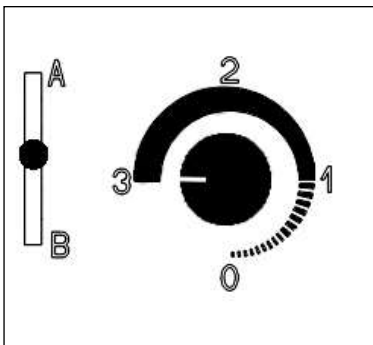
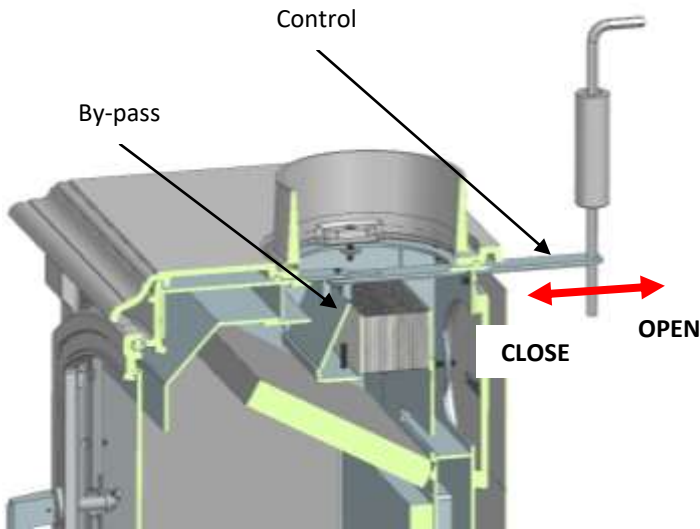

Fig. 11. Lighting and reloading
Fig. 18
1. Be sure the ash drawer is closed and secured. Slide the Burn Type Lever to the centre position (See the setting on fig.11).
2. Open the Burn Rate Knob all the way by turning to the left. This knob may be turned manually or by pressing "ON/HI" on the remote control (optional). (See the setting on fig. 11). If your stove has the Catalytic Hybrid Woodbox System, open the bypass by sliding back the control located on the upper rear part of the stove (Fig. 18).